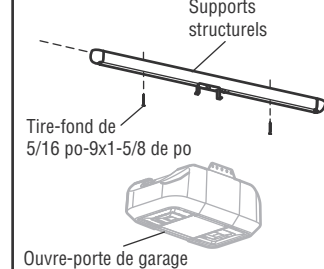

FIGURE 4
4. FIXEZ LA TIGE DESCENDANTE AU MÉCANISME COULISSANT DANS LE RAIL (FIGURE 4)